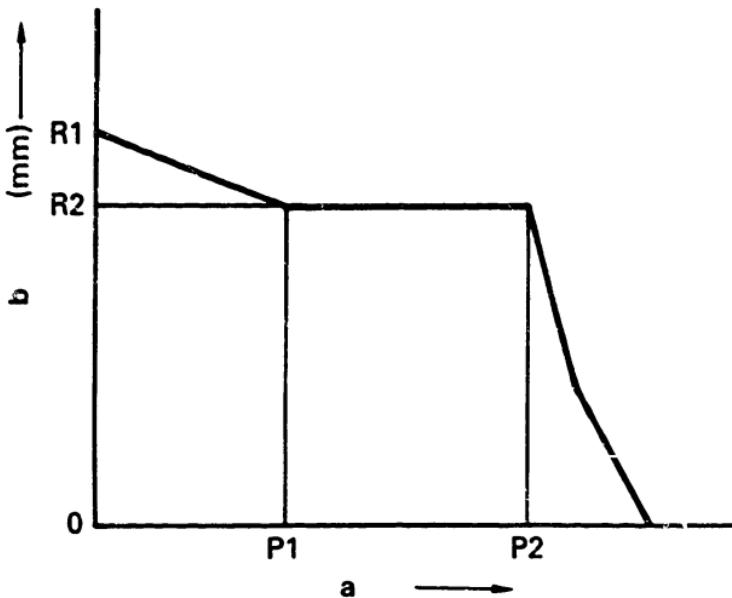

Fig. 80
- 1. When the performance of the pneumatic governor is as shown in Fig. 80:
- a. Maintain pump speed at 500 rpm and reduce the pressure of the pneumatic governor's negative pressure chamber to  $P_2$  mmAq (Fig. 80).
- b. Adjust the cap so that the control rack moves 0.01 to 0.05 mm from position R2 in the "fuel-decrease" direction, and secure with the nut. (Figs. 80 and 81)